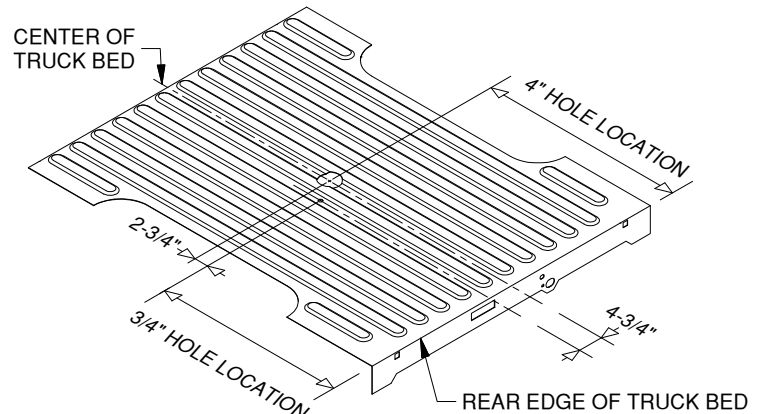

Figure A2.
5. **Mark the hole locations.** Begin by marking the locations for the 4" diameter and 3/4" diameter holes in the truck bed floor. To mark the location of the 4" hole, measure from the back of the truck bed floor by hooking a tape measure over the back of the sheet metal and marking the floor with the length specified for your bed size and centered between the wheel wells. The 3/4" hole will be offset from center on the driver side of the bed. Locate the mark for the 3/4" hole with the length specified for bed size from the back of the truck bed floor, and 4-3/4" from the center of the 4" hole, see Figure A2. The locations of these holes are critical to the installation of the hitch, so measure, mark, and saw carefully.